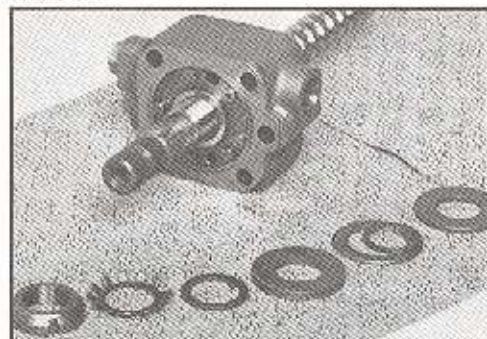

Figure 84
36. Remove and discard bearing lock washer (12) and remove washer (13), thrust washer (14), thrust bearing (15) spacer washer (16) and thrust washer (17). SEE FIGURE 84.